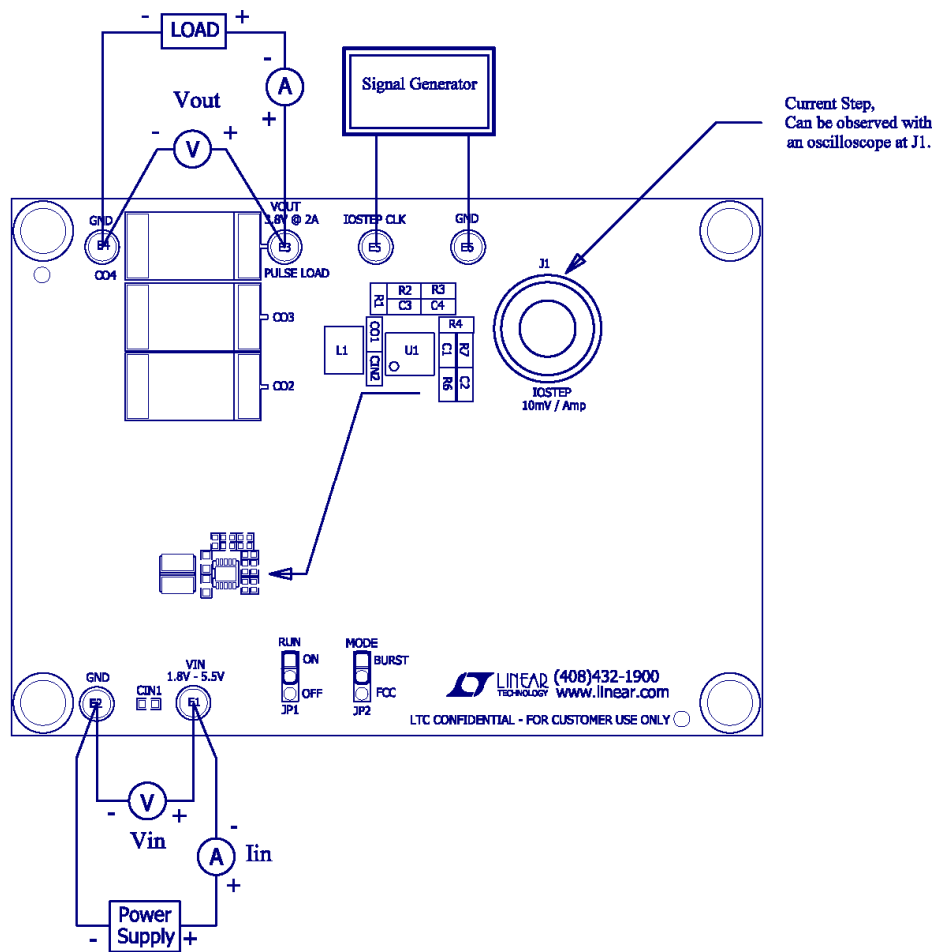
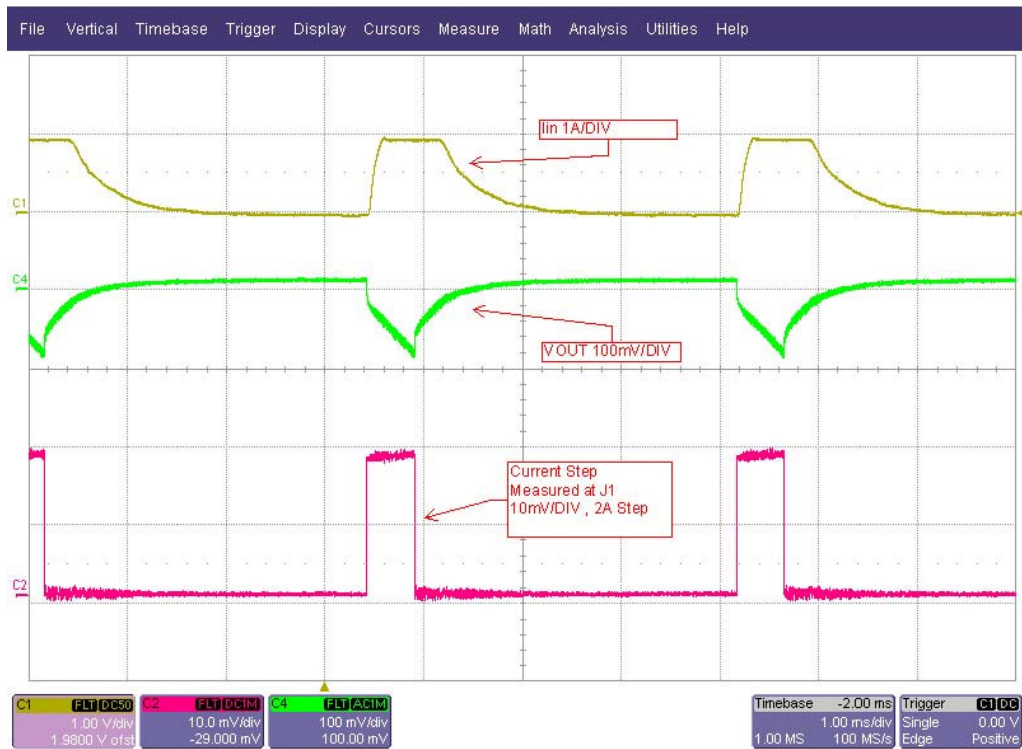

Figure 1. Connection Diagram
Figure 3. Step Load Response
Using short twisted pair leads for any power connections and with all loads and power supplies off, refer to Figure 1 for the proper measurement and equipment setup. The Power Supply (PS) should not be connected to the circuit until told to do so in the procedure below.
Demonstration circuit 1451A can be setup for simple evaluation of pulse loads – please see optional circuit (Dynamic Load Circuit) in Figure 1 and Figure 4 for proper setup. The circuit is capable of pulsed loads of up to 2A with duty cycles up to 15%. Starting from step 7 in the quick start procedure above, follow the procedure below:
8. Connect Signal Generator with an adjustable output amplitude between IOSTEP CLK and GND as shown in Figure 1. Adjust the signal generator output to produce a pulse of 2A as measured at J1 (IOSTEP, 10mV/DIV) with an ON time of 576 μ S and a period of 4.6 mS shown in Figure 3. Adjust the period and duty cycle of this signal to match that of the required load prior to attaching the pulse generator. The amplitude can vary but is approximately 2Vpp for a 2A step. Oscilloscope termination should be 1M Ω .
An example result showing Vout and a pulse load Iout is given in Figure 3.